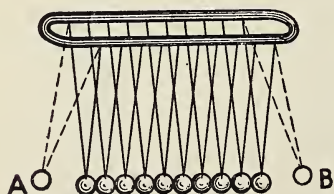
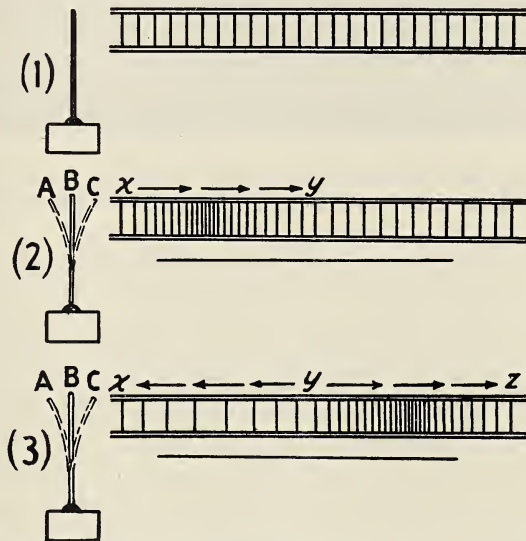

Fig. 159. The energy of vibrations travels from particle to particle.
Fig. 160. Diagrams showing condensations and rarefactions produced as sound waves pass through a tube.
A mechanical illustration of the fact that energy will travel through individual particles is shown in Figure 159. The apparatus consists of a number of steel balls hung so that they just
What kind of waves are sound waves? Are sound waves transverse or longitudinal? Figure 160, (1), represents a tube filled with undisturbed air. For clearness, the molecules of the air are shown in equally distant parallel lines. In Figure 160, (2), the steel strip, clamped at the end of the tube, has been pulled back to *A* and released. It moves from *A* to *C*, compressing the air in front of it. Since the effect of the push of the strip is communicated from molecule to molecule of the air just as the energy of ball *A* was communicated from ball to ball in Figure 159, the effect continues to move from left to right. When the strip has reached *C*, the crowding effect on the air has traveled to *y* and the air from *x* to *y* has been condensed. When the strip moves from *C* to *A*, it leaves a partial vacuum on the right in the tube and the air molecules rush into it, creating a rarefaction. This rarefaction must continue moving to the right though the molecules producing it are actually moving to the left. When the strip has reached *A*, a rarefaction has been produced from *x* to *y* while the impulse given the molecules
by the strip moving from *A* to *C* has been passed on from molecule to molecule. In Figure 160, (3), we see a condensation in the molecules from *y* to *z*. The wave passes on through the air in the tube. Each vibration of the strip repeats this effect, and we have a continuous train of condensations and rarefactions.